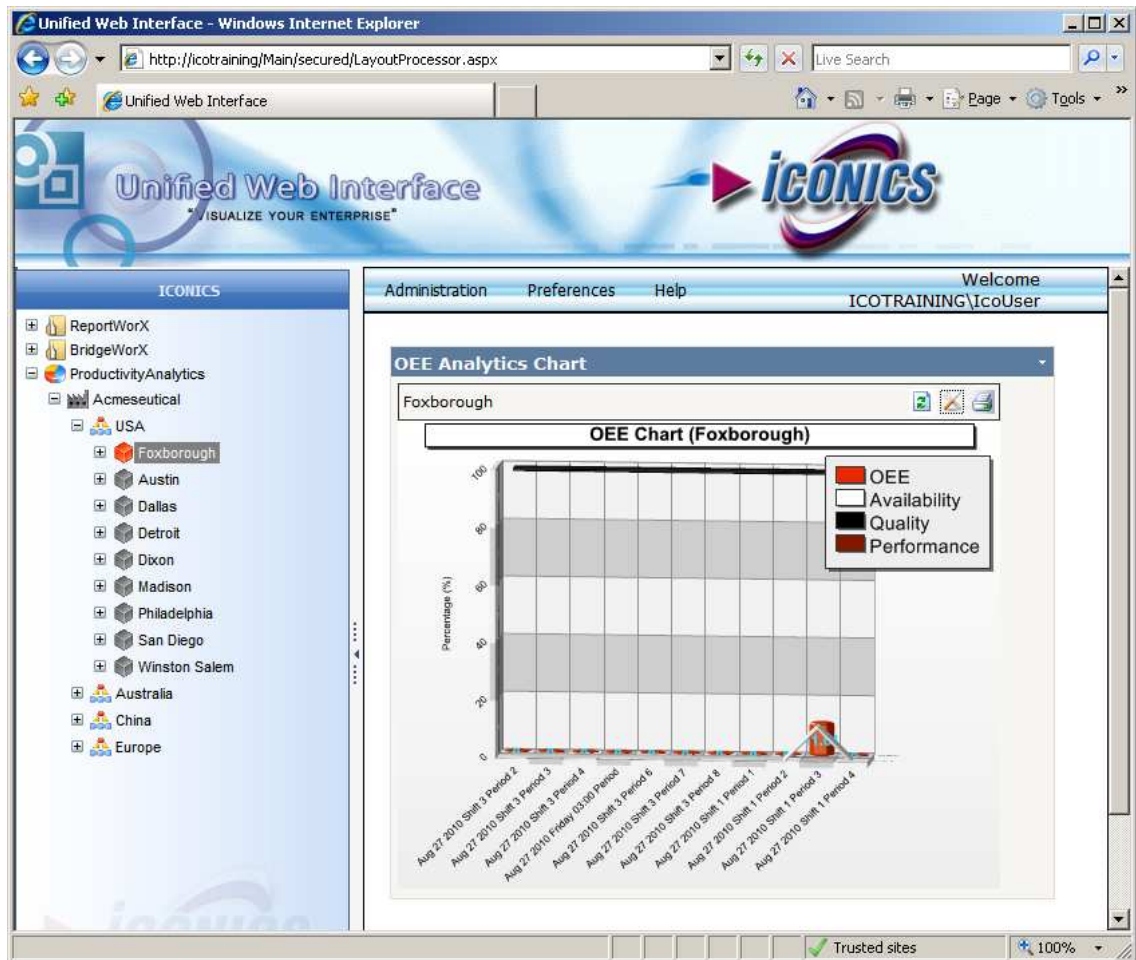

Figure L8.6 - Foxborough OEE Chart Runtime View
19. Click on the Assign button at the lower right. Now if you select any of the machines from the navigation tree, you should see the page update and display the OEE chart that we just configured, similar to the one in Figure L8.6.